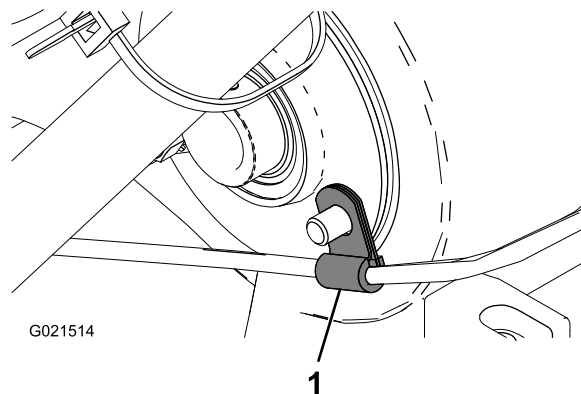

Figure 4
20. Using the old throttle cable clip, attach the new throttle cable to the rear of the differential housing (Figure 4).